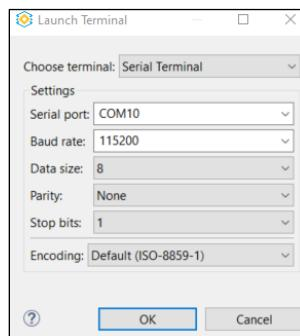
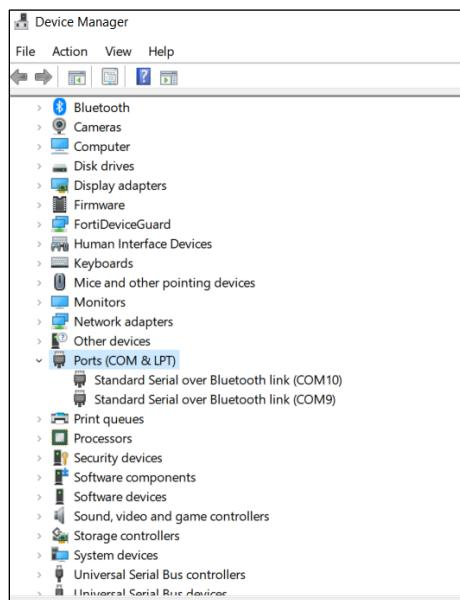

Figure 7.6. UART Launch Terminal Window
Figure 7.7. Device Manager Window on PC
4. Choose **Serial Terminal** as shown in Figure 7.6. In Serial port dropdown list, select the last COM in the list as shown in Figure 7.7.